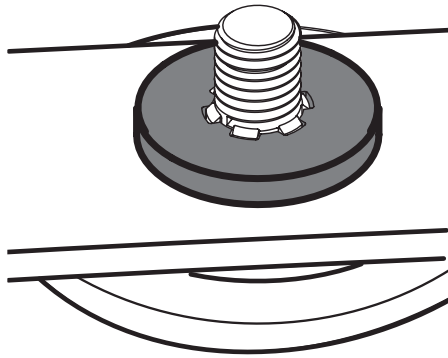

Figure 4-23
2. Carefully place the flat washer on the spindle shaft. Be sure that the splines at the base of the spindle shaft threads line up with the washer splines. See Figure 4-23.